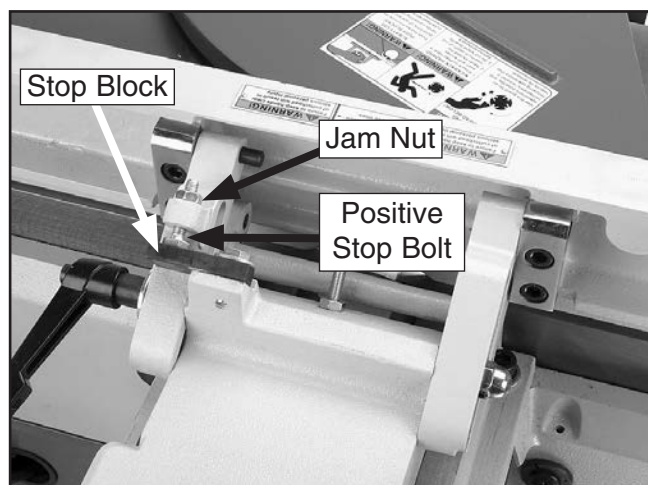

Figure 59. Adjusting fence to 90°.
1. Lower the stop block against the fence, as shown in **Figure 59**, and loosen the fence tilt lock.
—If it is not set at exactly 90°, loosen the jam nut and adjust the positive stop bolt until the fence is exactly 90° as shown in **Figure 59**.